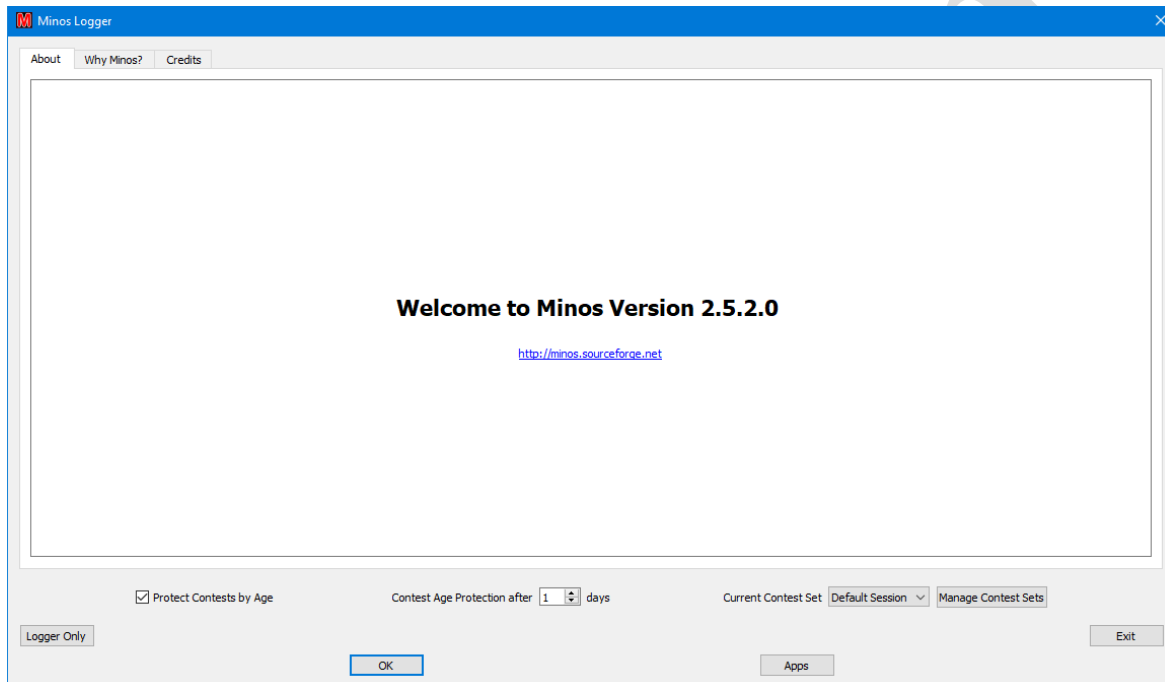

Figure 12 – Welcome screen
- Automatically, after the number of days specified in the **‘Contest Age Protection after’** field on the Welcome screen (see Figure 12) have passed since the end of the contest. If the contest has been age protected then both the **‘Protected’** and **‘Age Protected’** boxes (Figure 18) are set.